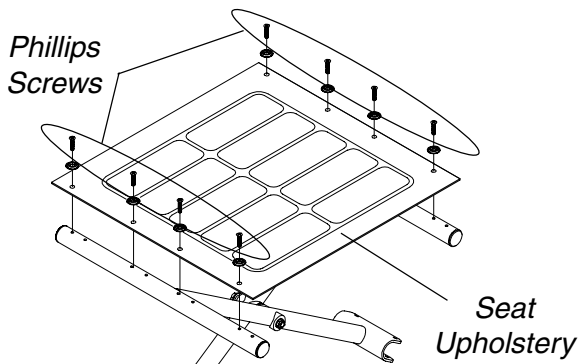

FIGURE 1 - REPLACING THE SEAT UPHOLSTERY
**REPLACING THE SEAT UPHOLSTERY (FIGURE 1)**
1. Remove the eight (8) phillips screws that secure the existing seat upholstery to the crossbraces.